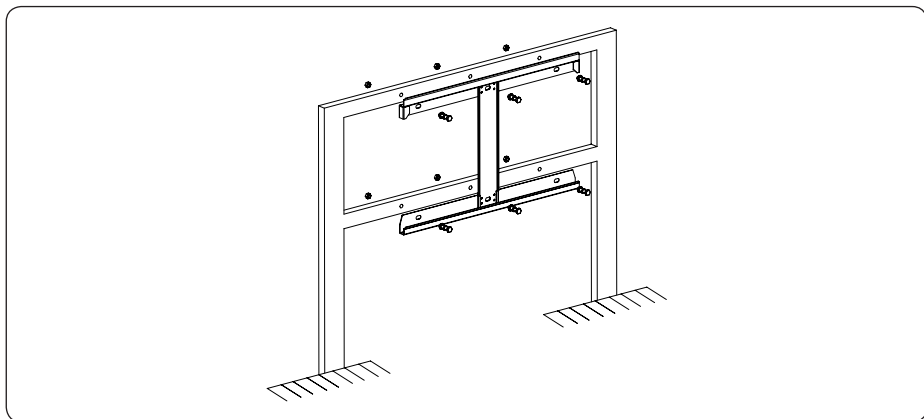

Figure 4-6 Fix the wall bracket
3) Follow the instructions in the picture below to install the M10 assembling bolts (bolt, spring washer, flat washer) and tighten the bolts with torque wrench in the torque of 35-40N.m, see Figure 4-6 for details: